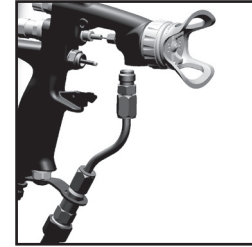

Fig. 14
11. Replace the fluid tube and trigger. (See figs 14 & 13)